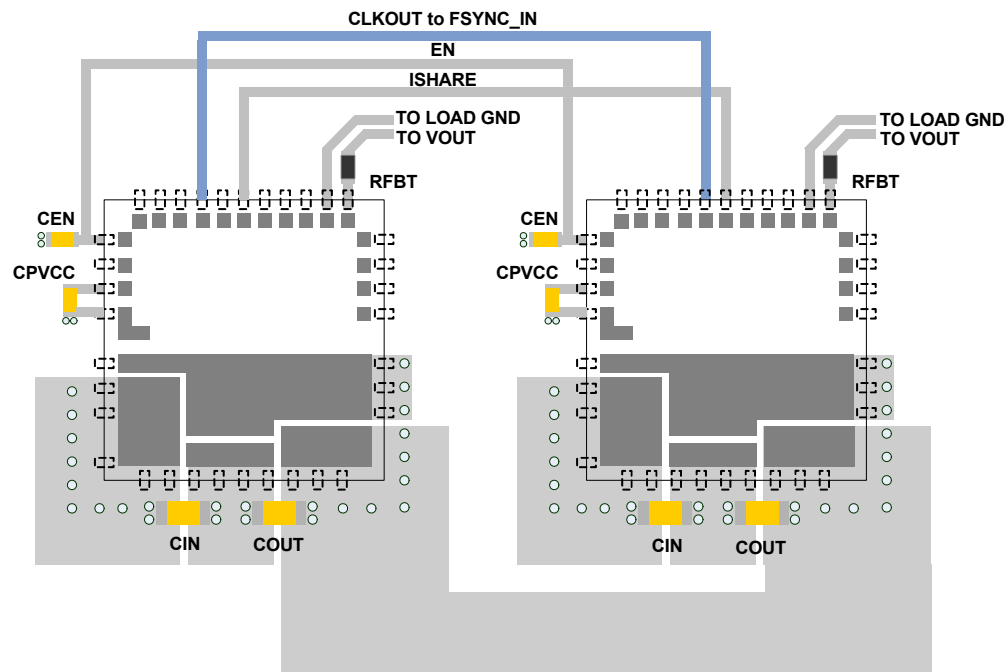

FIGURE 36. RECOMMENDED LAYOUT FOR DUAL PHASE SETUP
- Place modules such that pins 1-11 point away from power pads (PD1-4) so that signal busses (EN, ISHARE, CLKOUT-to-FSYNCIN) can be routed without going under the module. Run them along the perimeter as in Figure 36.
- Keep remote sensing traces separate, and connect only at the regulation point. Four separate traces for VSEN_REM- and RFBT (which stands for remote feedback) as in the example in Figure 36.